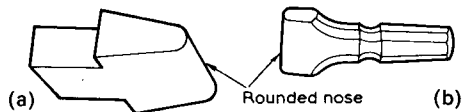

Fig. 4.119 Fullers used for reducing a bar:
*Fullers* are described in Figs 4.119 and 4.120.